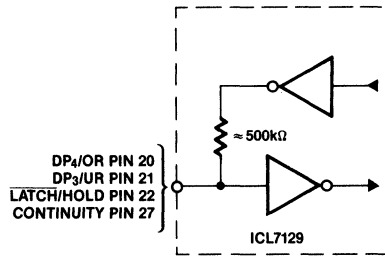

Figure 7. "Weak Output"
Four of the pins of the ICL7129 can be used as either inputs or outputs. The specific pin numbers and functions are described on the Pin Assignments and Functions (Table 1). If the output function of the pin is not desired in an application it can easily be overridden by connecting the pin to V^+ (HI) or DGND (LO). This connection will not damage the device because the output impedance of these pins is quite high. A simplified schematic of these input/output pins is shown in Figure 7. Since there is approximately $500k\Omega$ in series with the output driver, the pin (when used as an output) can only drive very light loads such as 4000 series, 74CXX type CMOS logic, or other high input impedance devices. The output drive capability of these four pins is limited to $3\mu A$, nominally.